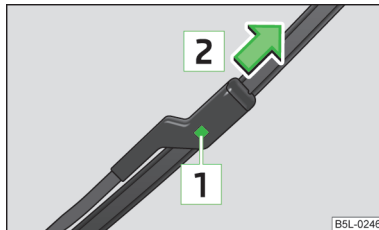

Fig. 51
- › Press the locking button **1** » Fig. 51 and remove the wiper blade in the direction of arrow **2**.